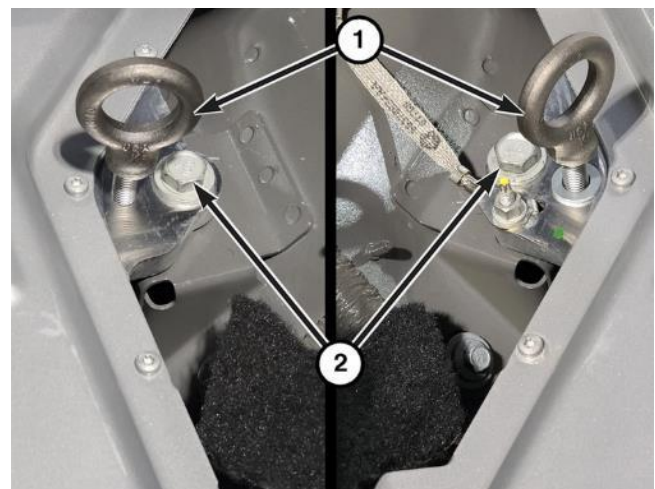

Figure 28 – Eyebolt Installation
- 42. Thread the other two Eyebolt, 10mm 2035203080 (1) into the threaded holes next to the HV battery pack mounting bolt holes (2) on the rear side of the HV battery pack (Figure 28).